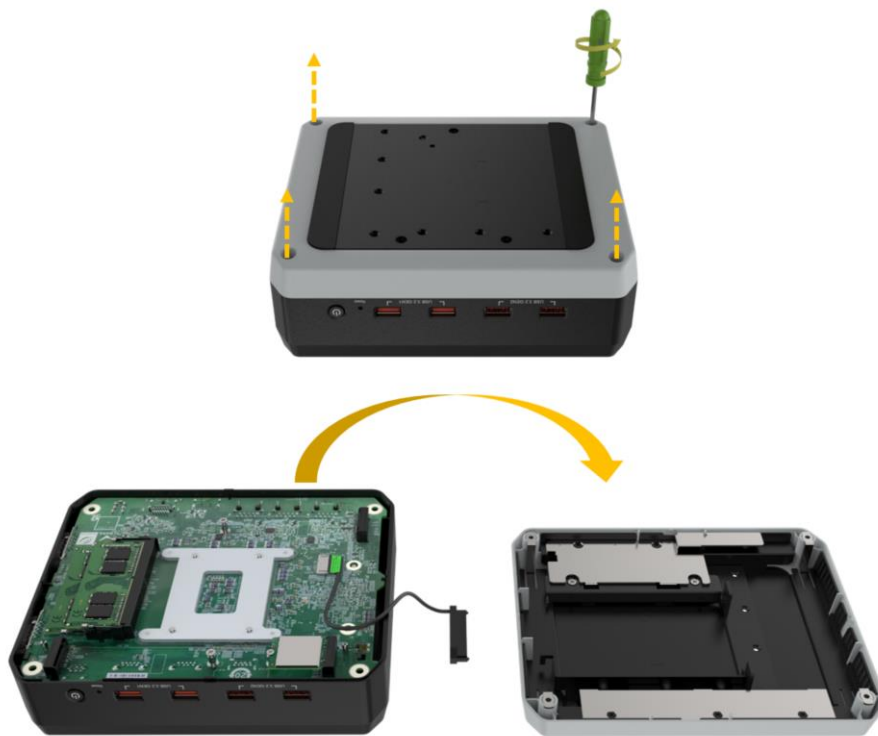

Figure 3-1: Remove the Cover
**Step 2:** Take off the back cover (See Figure 3-1).